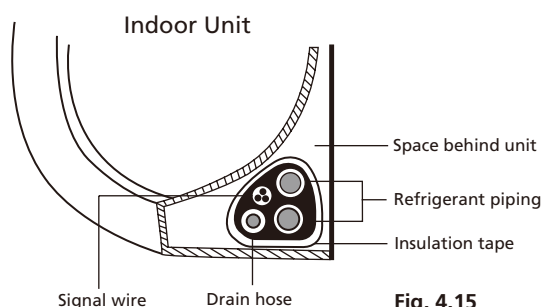

Fig. 4.15
1. Bundle the drain hose, refrigerant pipes, and signal cable according to **Fig. 4.15**.